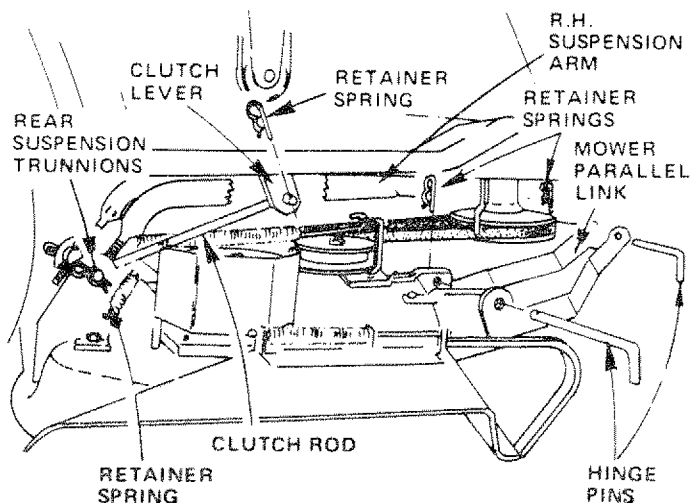

FIGURE 38
- Remove retainer spring from clutch rod; pull clutch rod out of clutch bracket (Fig. 38).
- Pull retainer springs out of rear suspension trunnions. Remove rear suspension trunnions from lift brackets (Fig. 38).
- Pull retainer spring out of front hinge pin. Remove front hinge pin (Fig. 38).
NOTE: IF AN ATTACHMENT OTHER THAN THE MOWER DECK IS TO BE MOUNTED ON THE TRACTOR, THE L.H. AND R.H. SUSPENSION ARMS (FIG. 38) SHOULD BE REMOVED FROM TRACTOR.